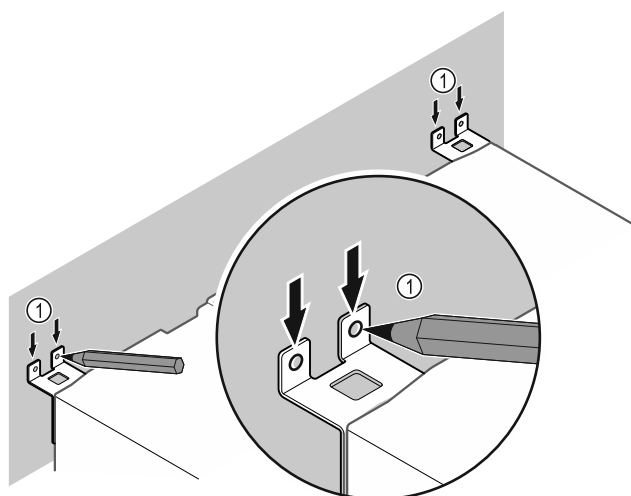

Fig. 68
- Make markings on the wall Fig. 68 (1).